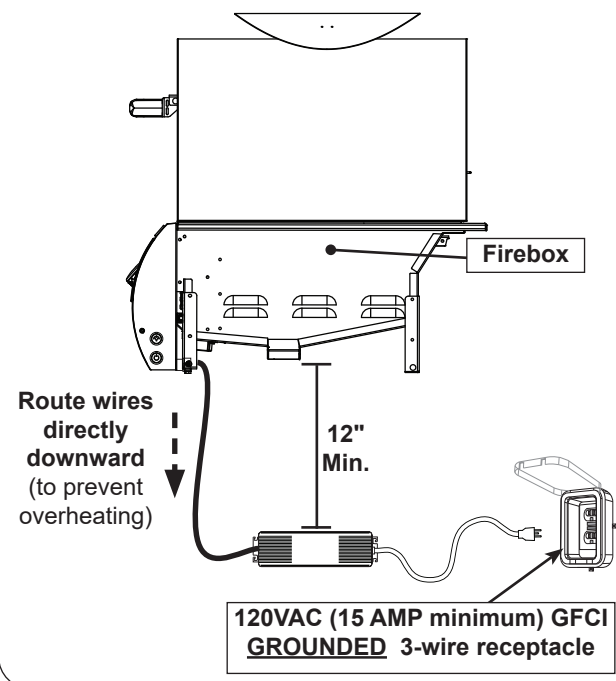

Fig. 27-2 Electrical installation
1. Ensure the wire harness extension is routed directly downward. This will prevent overheating. **DO NOT** route the harness below the unit firebox. See Fig. 27-2.